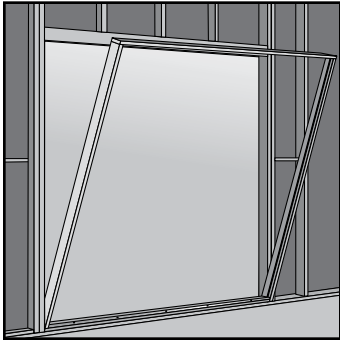

Fig. 15
1. With jamb system assembled, tip into rough opening, checking for good fit (**Fig. 15**). Mark exact location of sill on floor for construction adhesive and future fit, then remove unit.